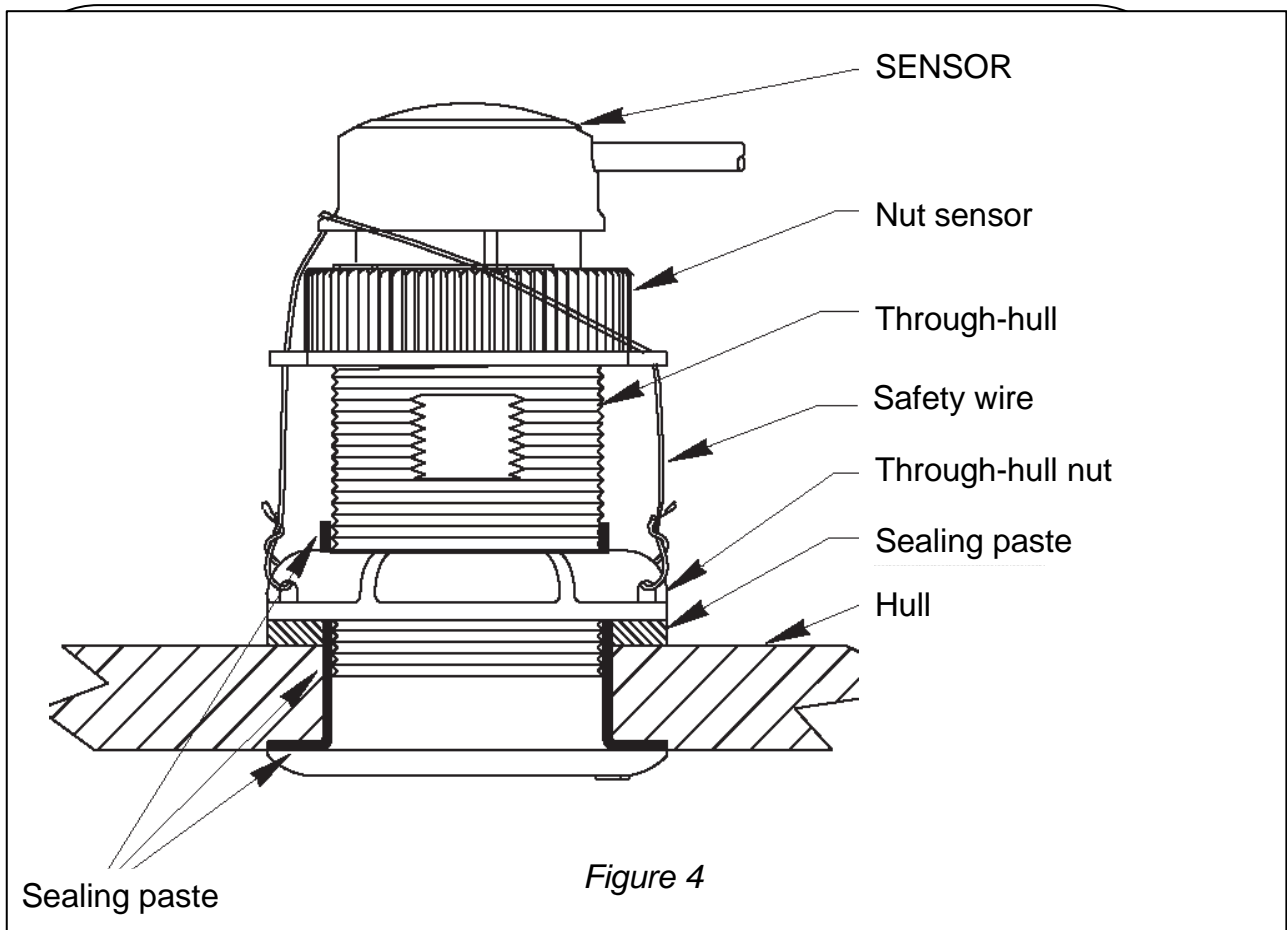

Figure 4
- Position the through-hull by orienting the arrow towards the bow of the boat (see figure 4). Similarly, on the outside of the through-hull, an arrow indicates the orientation : position this arrow towards the bow of the boat.